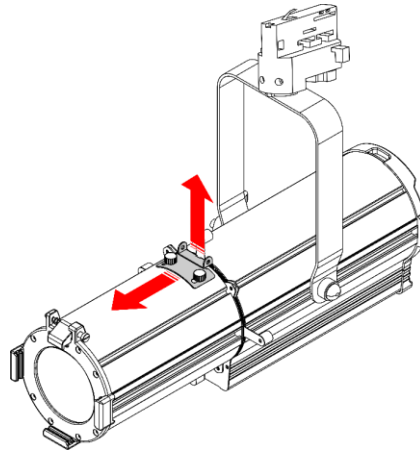

Fig. 22
- 02) Slide the **gobo slot cover plate (11)** towards the **lens (08)** (see Fig 22).